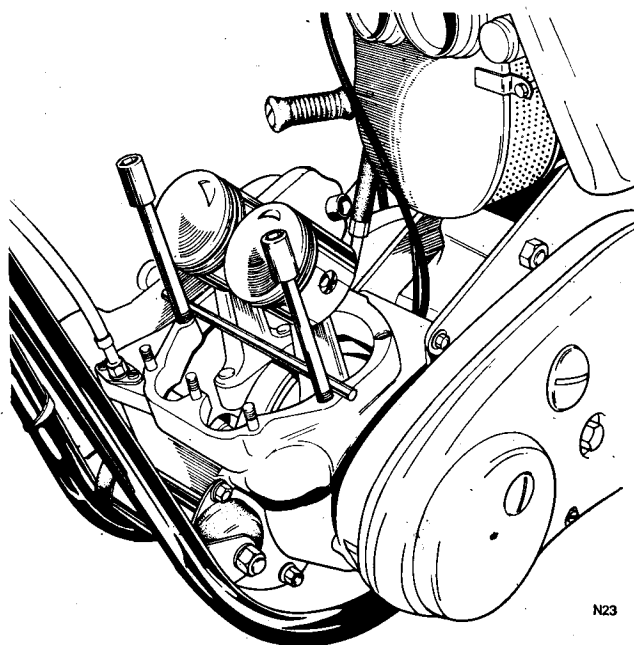

Fig. C10 Support connecting rods to prevent damage against crankcases
- 2 Commence lifting the cylinder off the base studs and prepare to support the connecting rods as the cylinder is lifted clear of the pistons. In *Fig. C10* a suitable implement has been inserted between the refitted cylinder through bolts (or studs other than on 850 models) to prevent the connecting rods and pistons falling against the crankcase mouth. Any damage to the connecting rods could result in failure of the rods at a later stage of use.